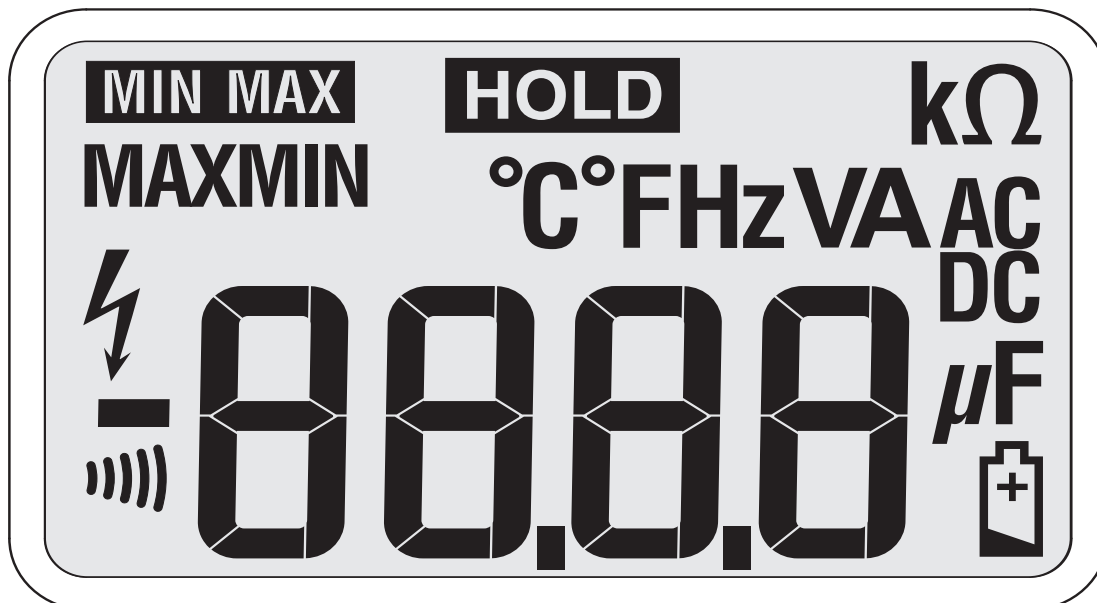

Figure 3. Display Segments (324 and 325 Display is Shown)
2. Turn the rotary switch on while you hold down the button. All of the display segments are shown. See Figure 3.